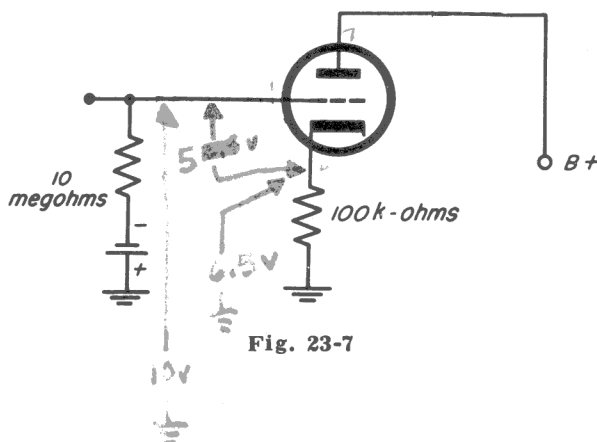

Fig. 23-7
Step 10. Check your work against Fig. 23-7, and if everything agrees, plug in the power cord.